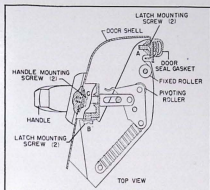

FIGURE 4 — Latch and Handle
3. Refer to Figure 4 and remove the two mounting screws in the door flange (at point A) and the two screws that connect the latch mechanism to the side of the handle escutcheon (at point B).
3. Remove the two screws that fasten the latch mechanism to the handle escutcheon (at point B). Refer to Figure 4.